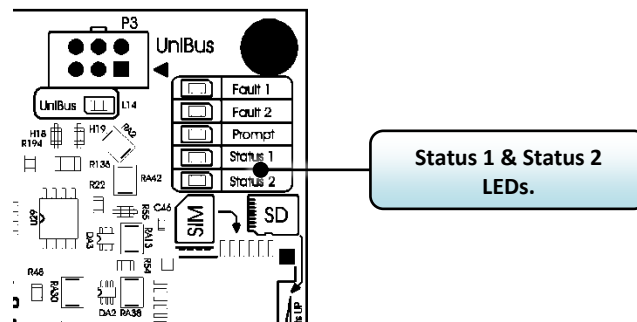

Figure 6
2. Wait for the controller to start. When the controller is up and running, the Status 1 and Status 2 LEDs will flash in an alternating pattern (Figure 6).